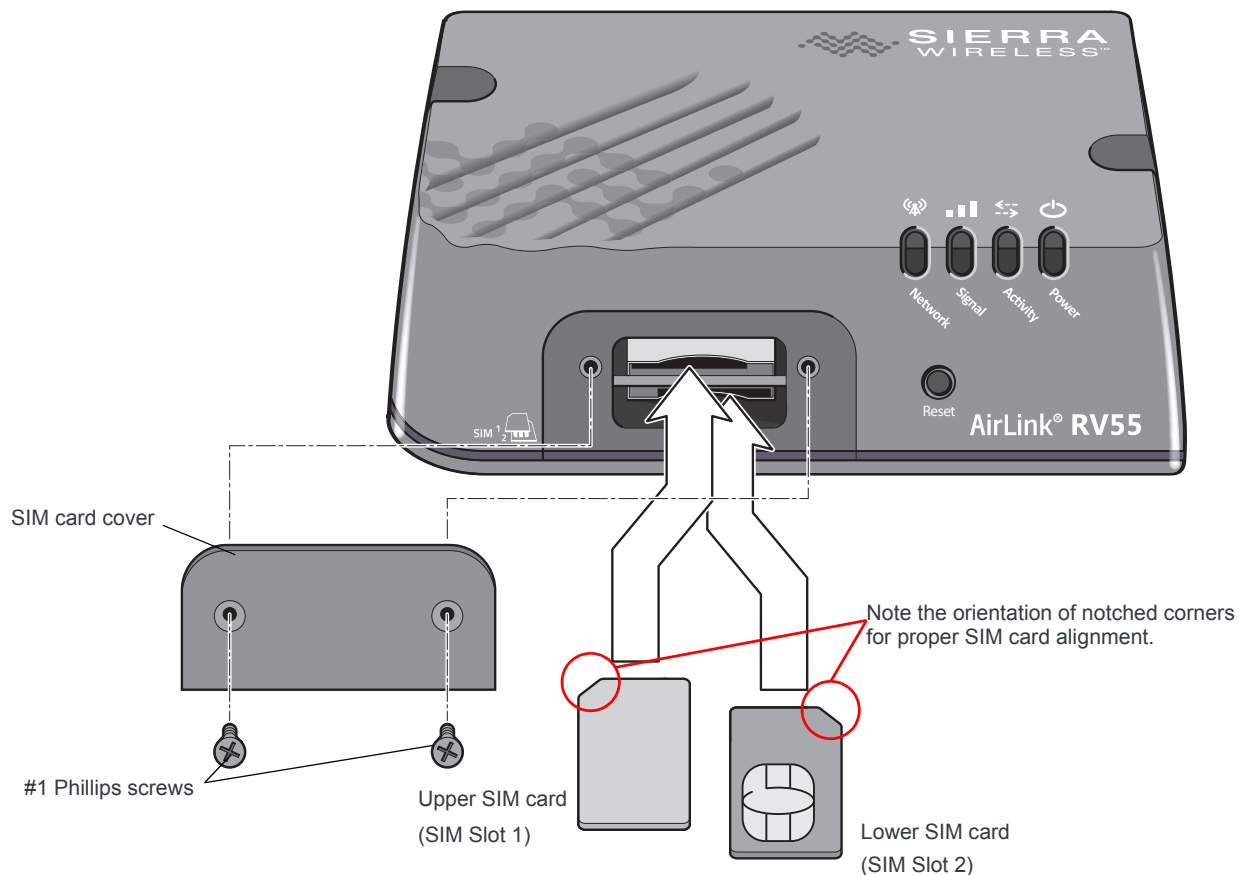

Figure 2-1: Installing the SIM Card
2. Orient the SIM card(s), as shown in Figure 2-1. The gold contacts on the upper SIM card face down, and the gold contacts on the lower SIM card face up. If you are using only one SIM card, insert it in the upper SIM slot (Slot 1).